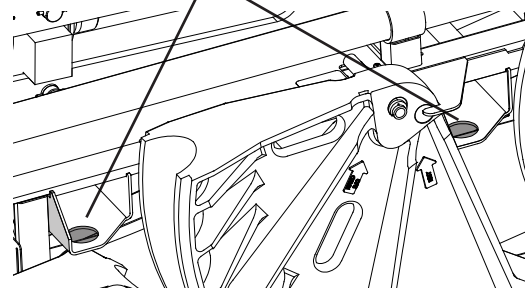

Figure 22
6. Secure loose tools and accessories in their respective storage spaces and close or lock security features to prevent accessories coming loose in transport. Strap holes are located in the fork pockets to tie down the MBTS for shipping. (Fig. 22)